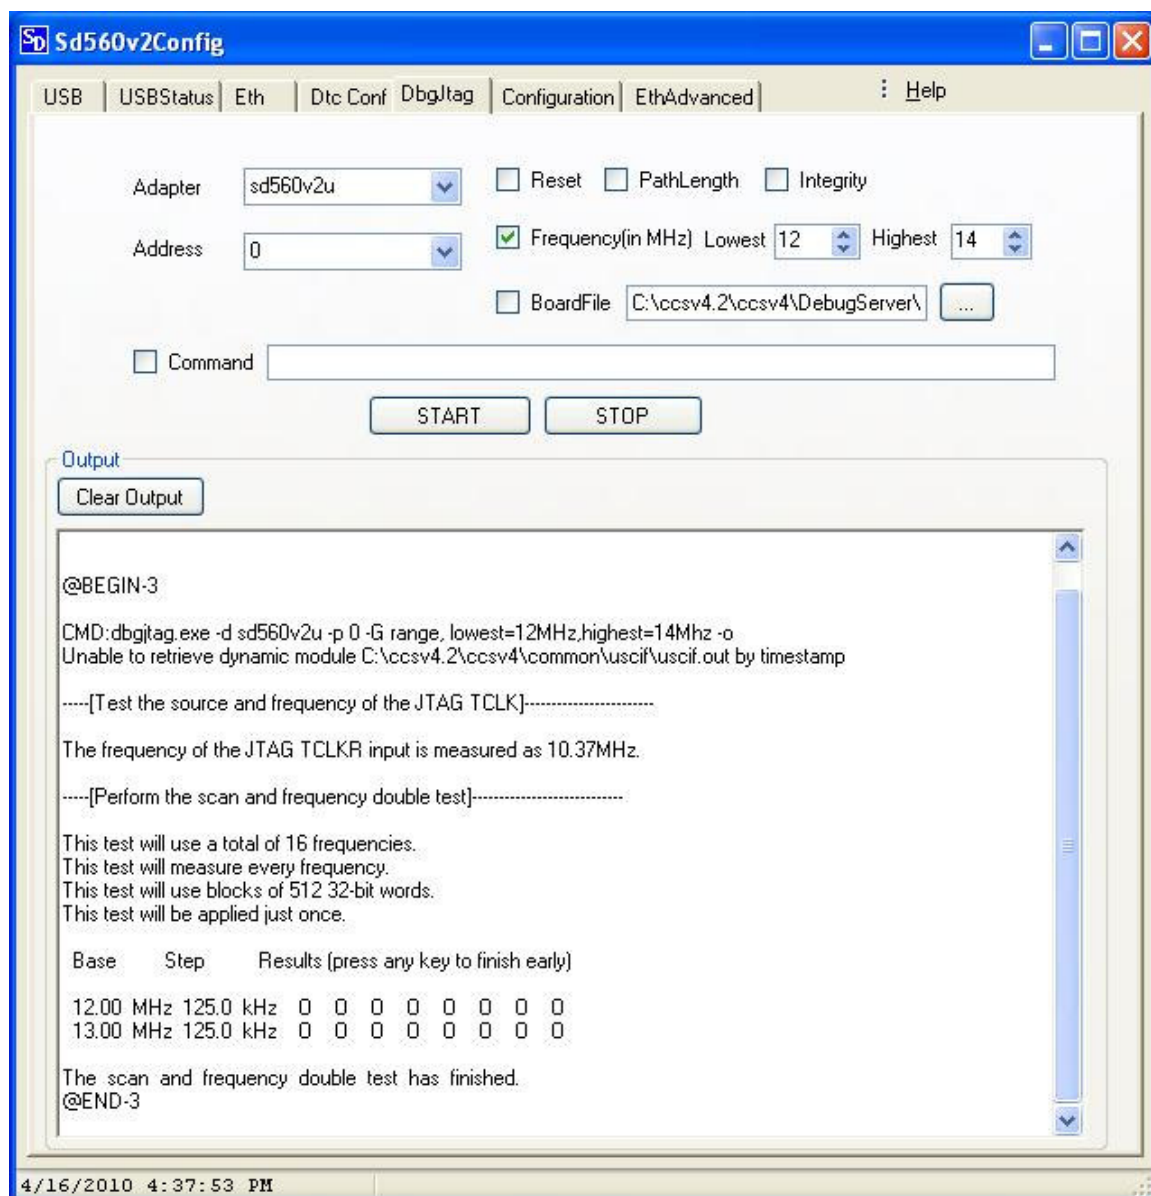

FIGURE 22: Sd560v2Config – DbgJtag Tab frequency command.
6. Click on the START button. The output is as shown in figure 22 below.